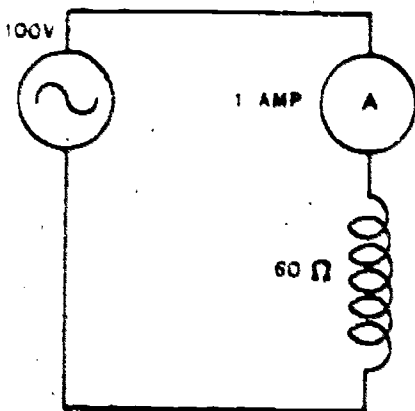

Figure 1
6. What is the opposition offered by inductance in the circuit called? (Figure 1)